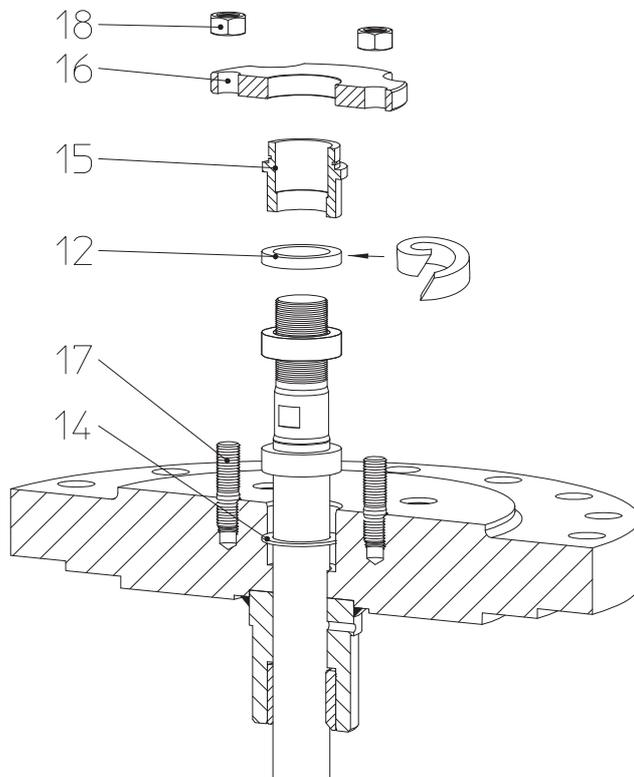
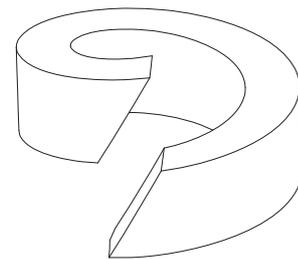

Fig. 8
Fig. 9: Split packing ring
- Insert the new packing ring as shown in Fig. 8 - Fig. 9.
If a split packing ring is used, cut with a chamfer as shown in Fig. 9.